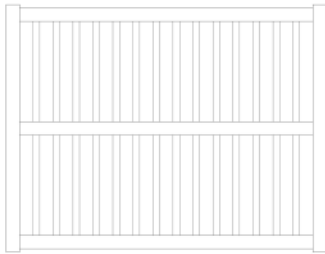

Fig. 1
- Solid fences must simulate wood ("Chestnut" color by Behr) and designed according to figure 1.
- Solid fences must simulate wood ("Chestnut" color by Behr) and designed according to figure 1; and